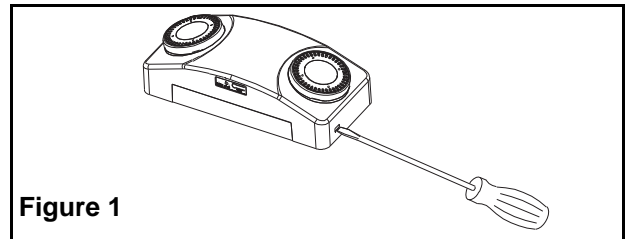

Figure 1
2. Using a flat head screwdriver, insert the blade into the two slots and pry open the front cover (see figure 1).